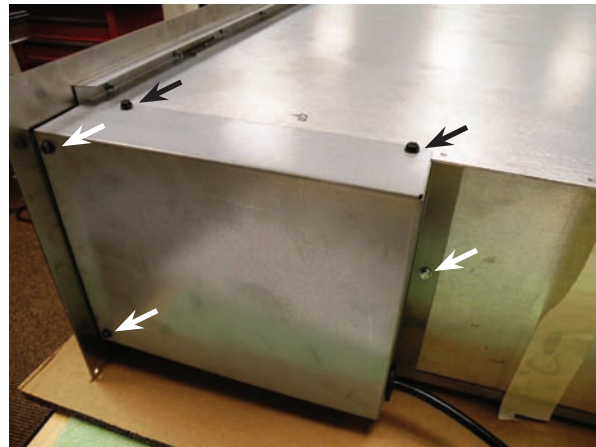

Fig 2
5. Remove the five (5) 1/4" hex screws from **Electrical Cover** (**Fig 2**).